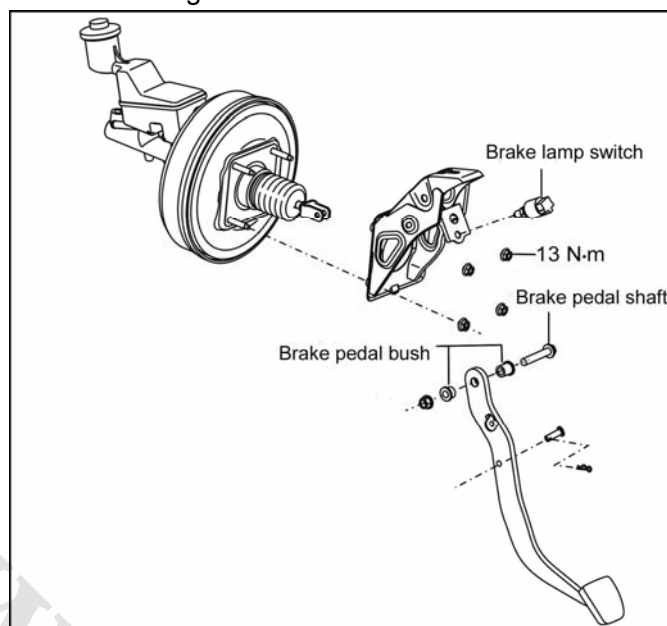

Fig. 2-46
5. Removal and installation. See Fig. 2-46.